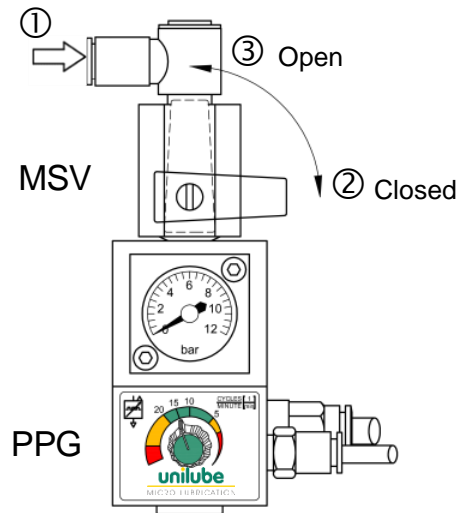
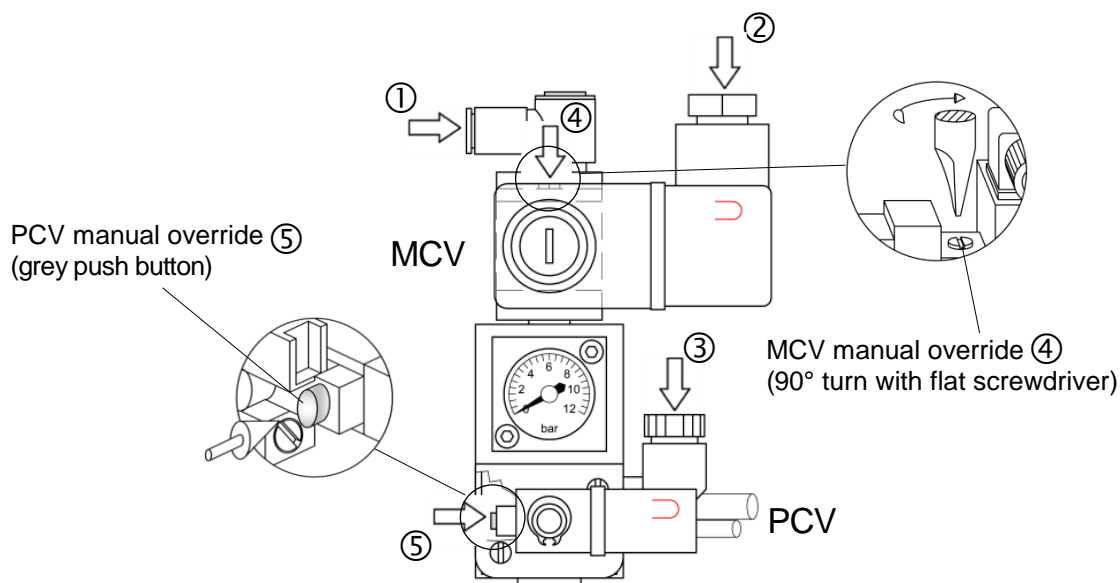

Fig. 6: Manual Shut-off Valve and Pneumatic Pulse Generator – connection and emergency actuation
Fig. 7: Electric Main and Pump Control Valve, connections, LED and manual overrides
- 4.6 The compressed-air line is connected via the push-in screw fitting (TUBO Ø 8x6 mm) or the internal thread (G 1/8") of the Manual Shut-off Valve (*Fig. 6 ①*) or the Main Control Valve (MCV, *Fig. 7 ①*, option). When the valve is closed (*Fig. 6 ②* "Closed" position), the MLS is depressurised; when the valve is open (*Fig. 6 ③* "Open" position), compressed air is supplied to the MLS.
Before any maintenance work, e.g. on the nozzles, the MLS must be depressurised (electric Main Control Valve switched off on the machine side or Manual Shut-off Valve closed, *Fig. 6* ② "Closed" position).
- 4.7 The MLS is coupled to the machine via the electric 3/2-way Main Control Valve with 24 VDC (*Fig. 7* MCV). A cable socket with LED power indicator (*Fig. 7* ②) is provided for connection to the machine control system; likewise for connection of the electric Pump Control Valve (option PCV, *Fig. 7* ③, for setting the delivery cycles, see Chapter 6.4).
When the machine is at a standstill, overrides are provided for maintenance purposes by means of the manual overrides on the electric Main Control Valve via a screw slot (*Fig. 7* ④) and on the electric Pump Control Valve by pulses via the grey push button (*Fig. 7* ⑤ & *Fig. 15*). If a Manual Shut-off Valve (*Fig. 6*) is fitted, it is activated e.g. via a control valve on the machine side (MLS On – MLS Off).
- 6.3 Setting the number of cycles: The Pneumatic Pulse Generator (PPG *Fig. 6 & 14*) determines the cycling of the micro metering pump; the setting is steplessly variable from 0 to approx. 60 pulses/minute by turning the toggle knob (optimum working range: 5 ÷ 20 pulses/minute, *Fig. 14* green). The adjustment range has no stop and the toggle knob can be turned in either direction as desired.
When the electric Pump Control Valve (PCV option, *Fig. 7*) is used, the cycling of the micro metering pump is determined via the machine control system. With a fixed switch-on time (approx. 0.5 seconds), the quantity of lubricant required for the respective process is set by varying the switch-off time (see separate CONTROL DIAGRAM "Minimal Lubrication System with programmable delivery rate").
20 pulses/minute ($\hat{=}$ 20 piston strokes/min, *Fig. 6*)
Programmed pulses ($\hat{=}$ CNC machine control system *Fig. 7*)
- 8.2.7 Switch on the compressed air (e.g. by overriding the MCV *Fig. 7 ④*) and watch the air bubbles move through the capillary line until the line is free of bubbles over its entire length up to the nozzle head (duration: approx. 1.5 minutes / 1 metre coax line length).
When working on the nozzles, make absolutely sure that the tools are at a standstill and the machine is switched off; for maintenance purposes, simulate operation with manual override (see *Fig. 7* and Chapter 4.7). Do not point the nozzle tip at people, especially not at their eyes – risk of injury!